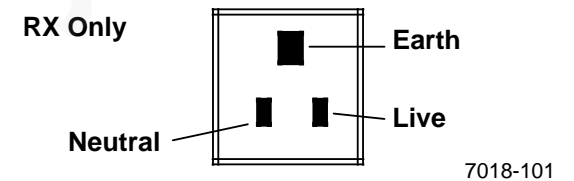

Figure 2. RX UK Wall Outlet
**RX, UK Only** (Figure 2). Perform the following: